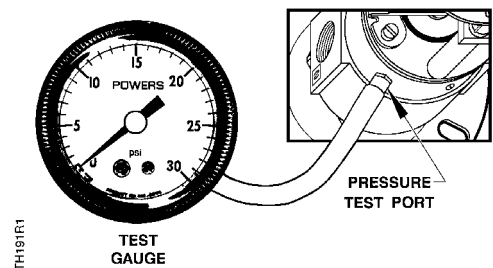

Figure 7. Using the Pressure Test Port.
4. Loosen the test port screw about 1/2 turn, and slip a 3/16-inch I.D. rubber hose connected to the test gauge over the pressure test port. See Figure 7.